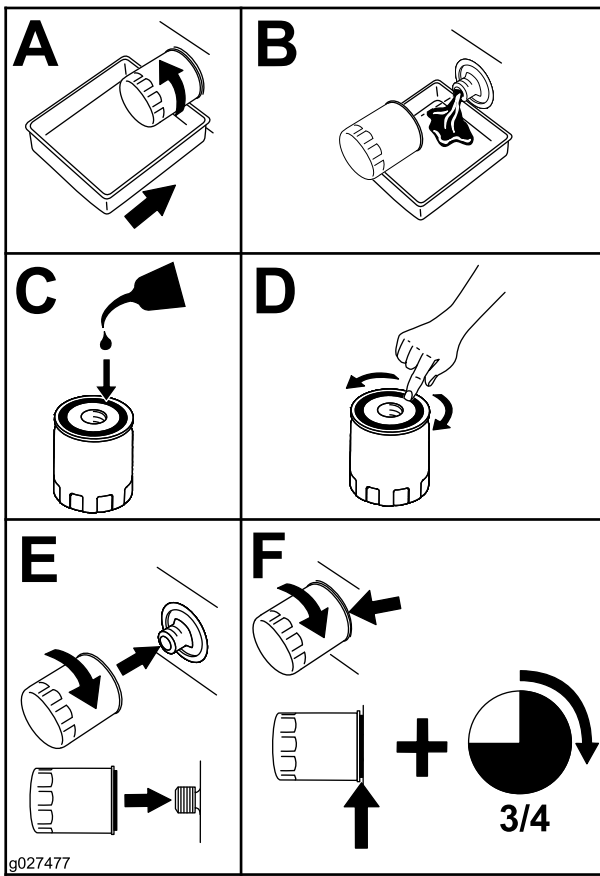

Figure 43
- Change the engine-oil filter (Figure 43).